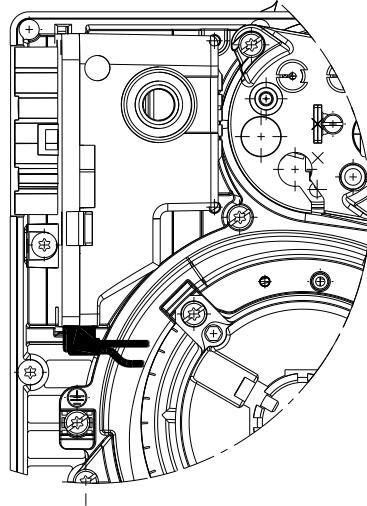

Fig. 24
- Check proper insertion of connection connectors according to the symbols shown on the bottom of the flame control equipment: make sure that the connectors are fully inserted by pushing them all the way in, each in its relevant position. All connectors must have the connection cables facing towards the inside of the burner (See Fig. 24).